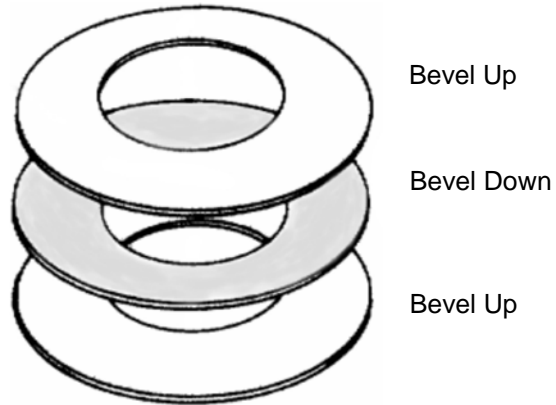
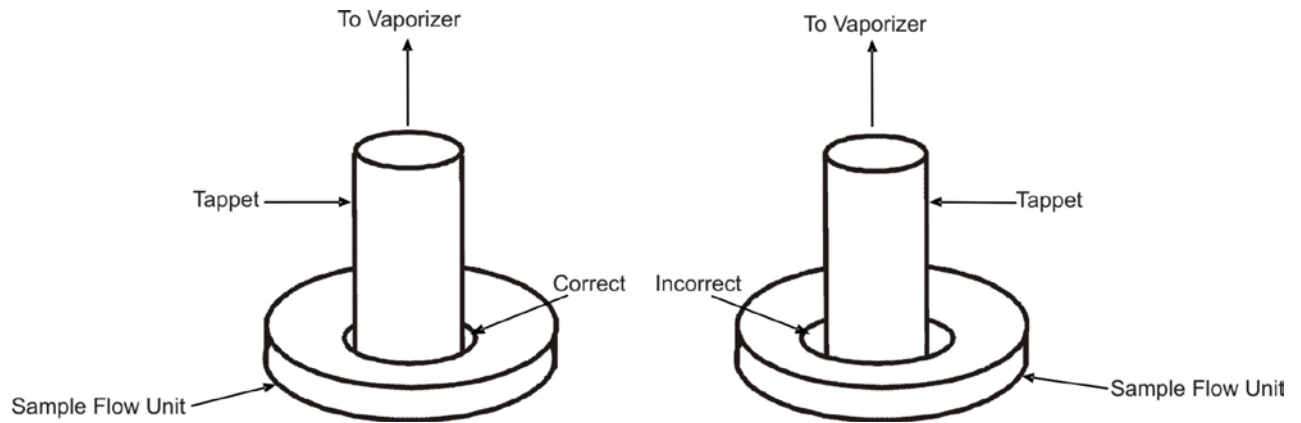

Figure 4-53: Belleville Washer Orientation
Figure 4-54: Orientation of Sample Flow Unit Hole
1.	<p>Before assembling the valve, apply a thin film of Dow Corning 44 grease to the following parts. Use Dow Corning 111 or 44 or any grease that has a temperature rating of -40 to $+260^{\circ}\text{C}$</p> <ul style="list-style-type: none"> • Internal wall of control cylinder (1) • Shaft of Control Piston (3) • Piston Guide hole/small O-ring (8) • Outside of Large O-rings (4) following reassembly of valve body (7) and piston (3)
2.	<p>Insert the piston (3) with stem (6) into the valve body (7) such that the stem does not become greasy.</p>
3.	<p>Drop the Belleville washer plate springs next to one another over the stem into the valve body. Washers must be positioned in an alternating bevel up/bevel down manner (to form a spring). Refer to Figure 4-53 for washer orientation.</p>
4.	<p>Slide the adjustment assembly (13) with nut (11), counternut (12) and Teflon gasket (14) onto the stem.</p>
5.	<p>Insert the sample flow unit (15) into the valve body (7) over the stem (6). Refer to Figure 4-54.</p> <p>Note that the stem hole through the sample flow unit is tapered. This tapering is not readily apparent when looking at the uninstalled sample flow unit, but it will be visible when it is installed on the stem. The narrowest side of the hole in the valve body should face outward (toward the vaporizer). The narrowest side of the hole will be apparent because it will have the least spacing between the stem and the side of the hole. Refer to Figure 4-54. Newer sample flow units have this orientation marked with an arrow.</p>